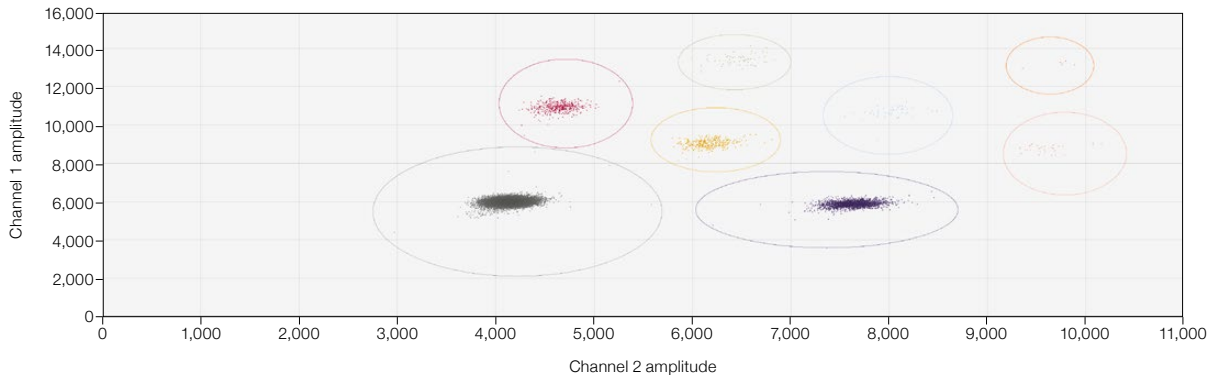

Fig. 20. 2D plot with all correctly designated clusters.
- Cluster assignments are applied upon selection. See Figure 20 for the final configuration .